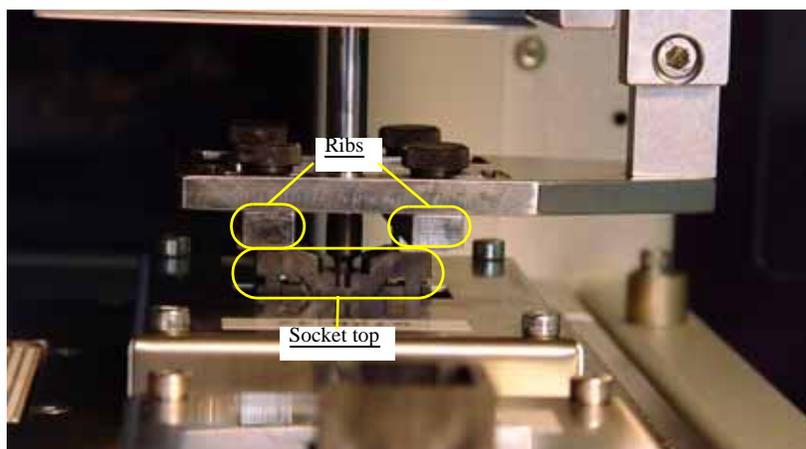

Figure 6-53—Socket actuator ribs contact socket top
- 3c) By hand, move the socket actuator down until the socket actuator ribs make contact with the socket top. See Figure 6-53.